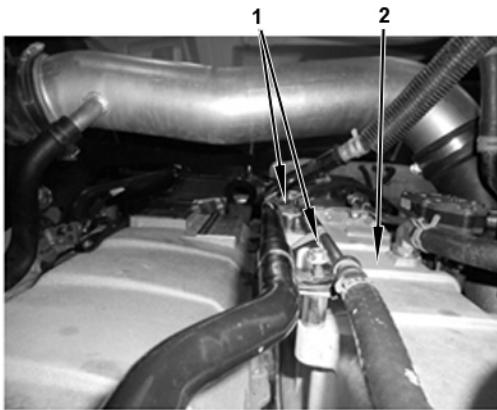

Figure 6 Cab Heater Supply Tube Brackets
9. Remove cab heater supply tube support brackets (1) from EGR cooler (2) (Figure 6).